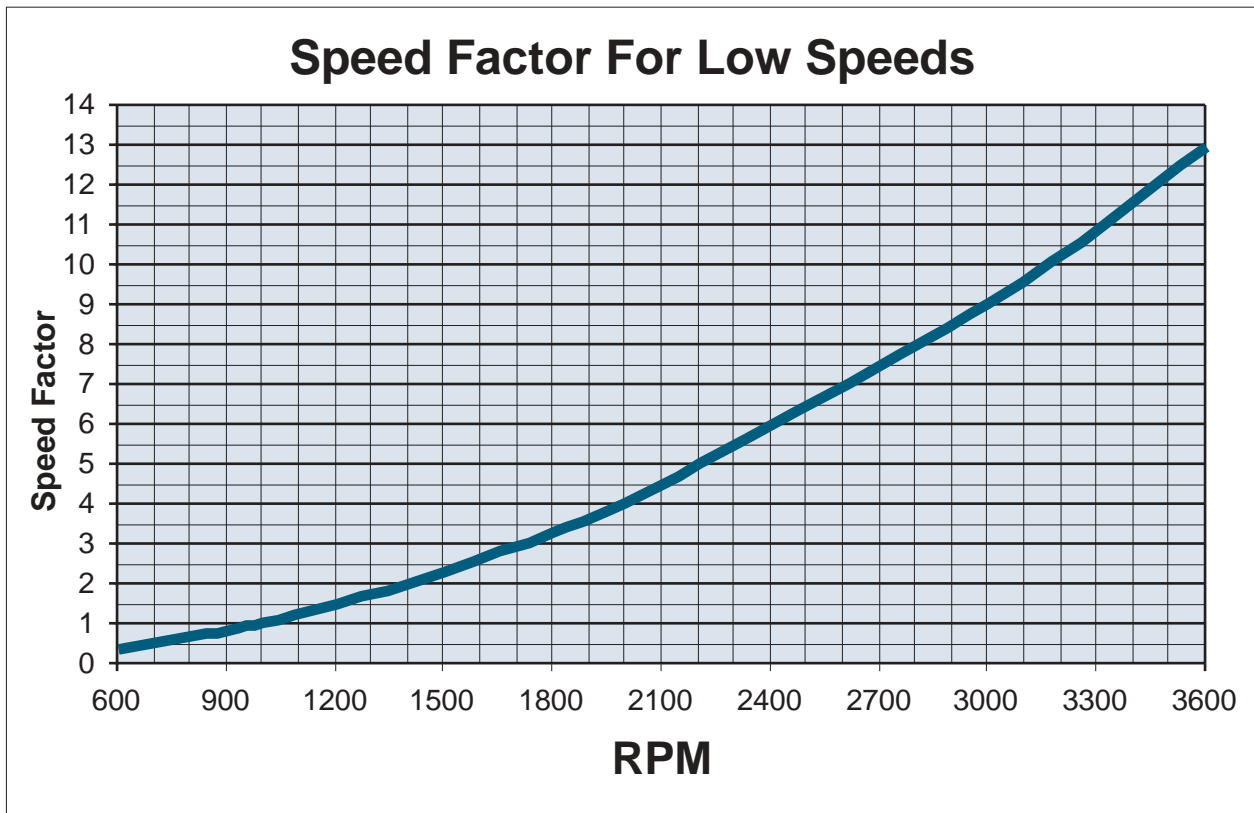

Figure 4
- B. To estimate slip torque at any speed read Ts & Fs from the Application Data table and "Speedfactor" from the graph Figures 4 and 5. Calculate using the formula: